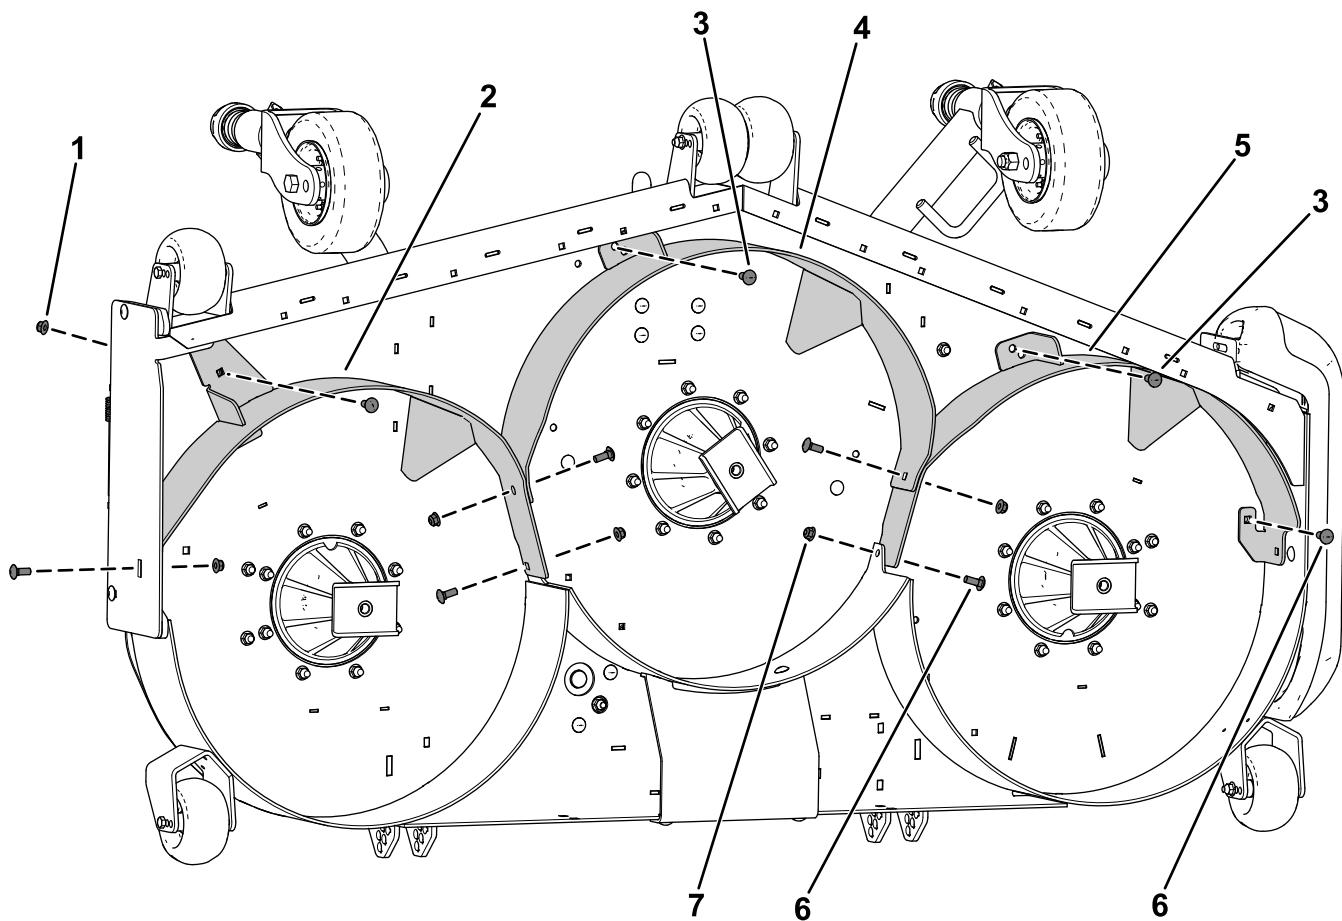

Figure 4
Note: Loosely install the baffles to align the baffles with all the holes in the mower deck (Figure 4).
2. Loosely install the right baffle to the discharge plate using 1 carriage bolt (3/8 x 1 inch) and 1 locknut (3/8 inch) as shown in Figure 4.
3. Loosely install the right baffle to the mower deck using 1 carriage bolt (3/8 x 1 inch) and 1 flange nut (3/8 inch) as shown in Figure 4.
5. Loosely install the left baffle to the mower deck using 1 carriage bolt (3/8 x 1 inch), 1 hex-washer-head bolt (3/8 x 1 inch), and 2 locknuts (3/8 inch) as shown in Figure 4.
7. Loosely install the center baffle to the right baffle and left baffle using 4 carriage bolts (3/8 x 1 inch) and 4 locknuts (3/8 inch) as shown in Figure 4.
8. Loosely install the center baffle to the mower deck using 1 hex-washer-head bolt (3/8 x 1 inch) and 1 locknut (3/8 inch) as shown in Figure 4.